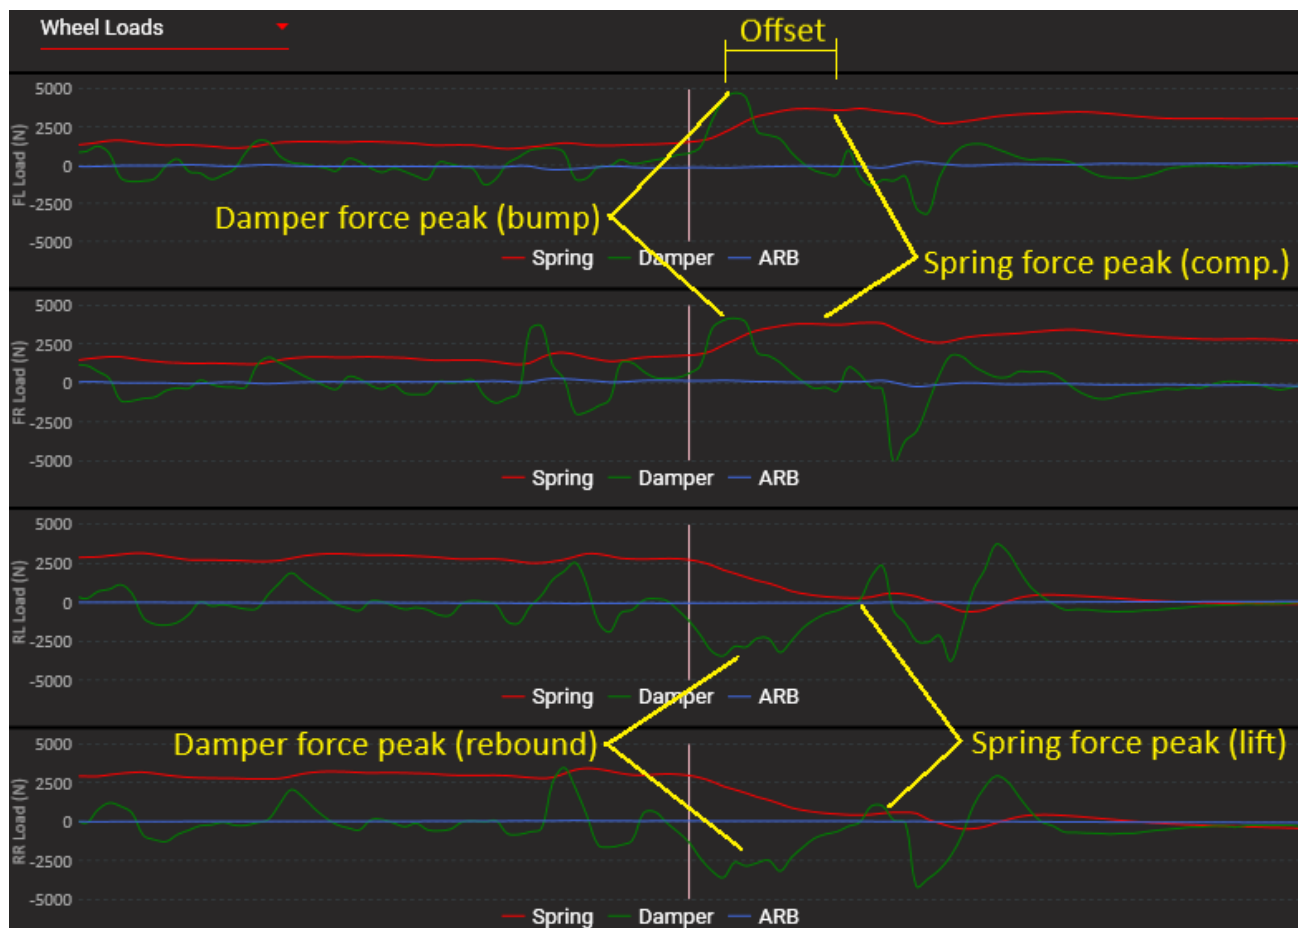

Figure 3.6: Spring and Damper Force Change in Transient Conditions
- 1) The damper force peaks earlier than the spring force, which has already been discussed in Figure 3.6.